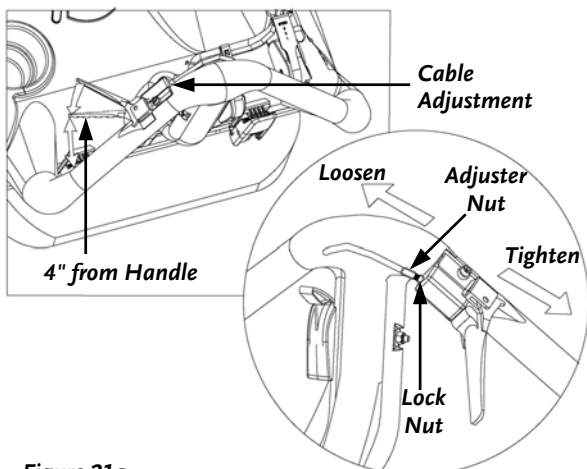

Figure 21a
2. Pull the machine backward and squeeze the Drive Clutch Lever until it stops freewheeling. At this point, the Drive Clutch Lever should be about 4" from the tip of the Lever to the Handlebar (**Figure 21a**).
4. Using two (2) 1/2" Wrenches, loosen the Lock Nut and then tighten or loosen the Cable Adjuster Nut in front of the Drive Clutch Lever (**Figure 21a**) until you obtain the 4" distance as noted in step 2.
5. Holding the Adjuster Nut in place with one Wrench, tighten Cable Lock Nut firmly with the other (**Figure 21a**).